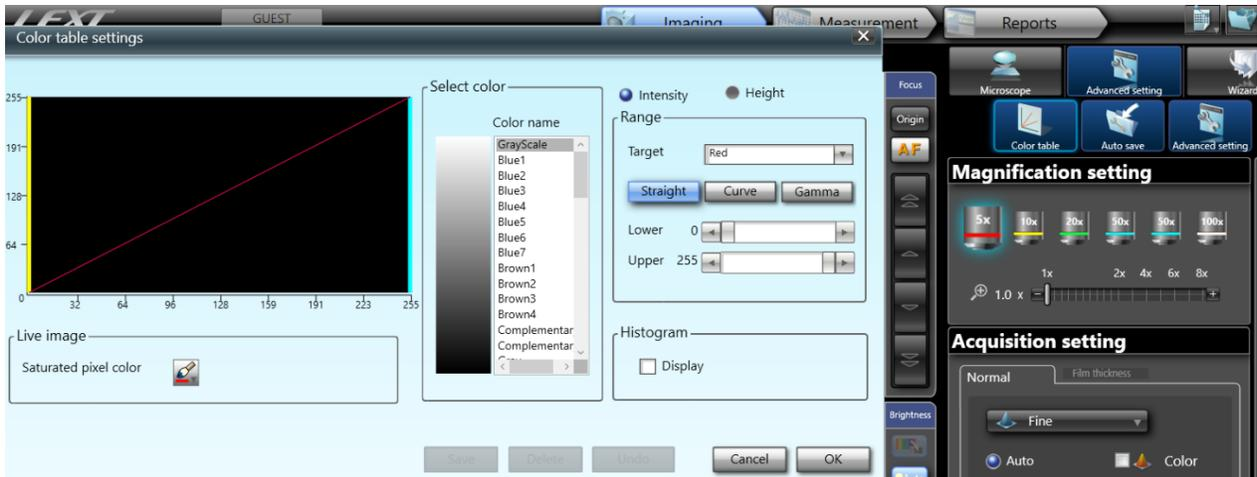

Figure 20. Advanced Settings
18. Further adjustments can be made in the advanced settings, as shown in Figure 20.